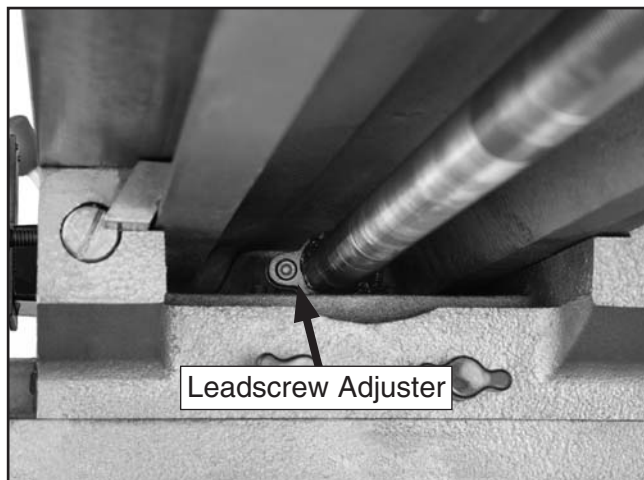

Figure 43. X-axis leadscrew adjuster.
1. Locate the X-axis leadscrew adjuster under the middle of the table. The head on the adjustment screw faces to the right (**Figure 43**).